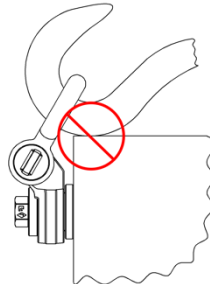

Fig 2
- Make sure the hoist ring shackle or hardware attached to it does not come in contact with the workpiece or any obstacles during the lift. The shackle must not bind on the edge of the workpiece. Use spreader beam to avoid binding (Fig.2).
Acceptable pulling area, restrictions apply (see Fig.2 and Safety Information above)